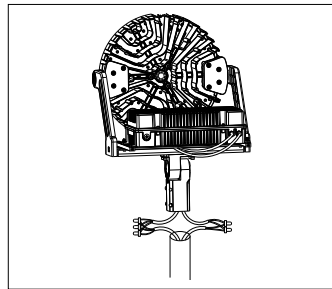

Figure 10
1. Loosen the four bolts on the SF bracket, connect the wires correctly, and thread them into the poles (Figure 10).